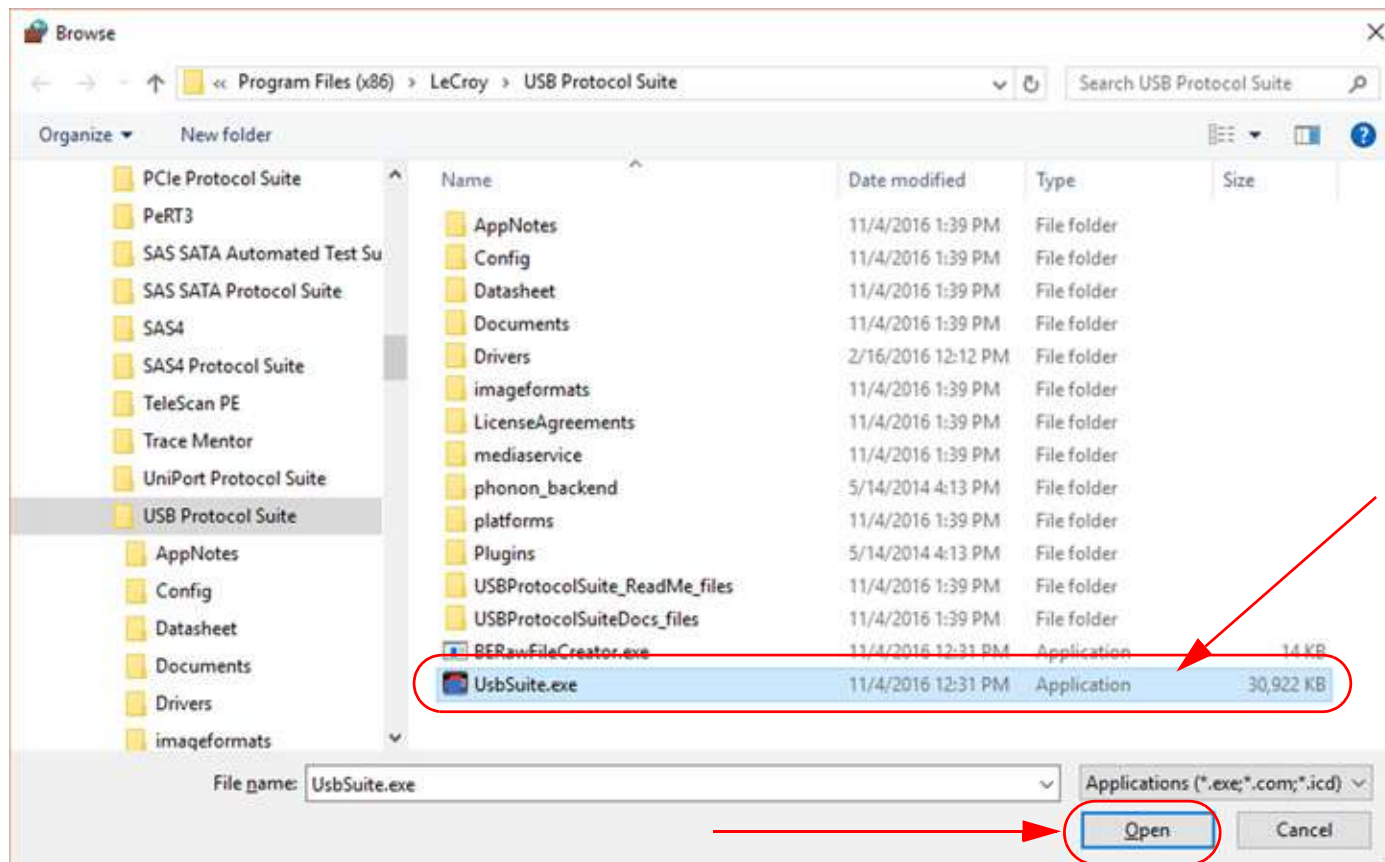

Figure 3.17: Windows 10: Browse to Find Application -> USB Protocol Suite Application
7. In the Browse window navigate to the location of the installation directory for the USB Protocol Suite you are installing. The Teledyne LeCroy USB Protocol Suite is typically installed on your machine in the C:\Program Files (x86)\LeCroy\USB Protocol Suite directory. See Figure 3.17.
9. If necessary, select the Teledyne LeCroy USB Protocol Suite you want to add. Then click on “ADD”, this will add the Teledyne LeCroy USB Protocol Suite software to the Apps allowed through the Firewall. See Figure 3.17.